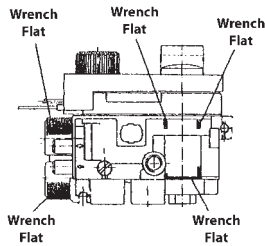

Figure 1
- f. Apply light pressure only at wrench flats (see Figure 1) to avoid damage to control body, which can result in leakage or malfunction of control. Do not apply pressure to top casting or plastic cover.